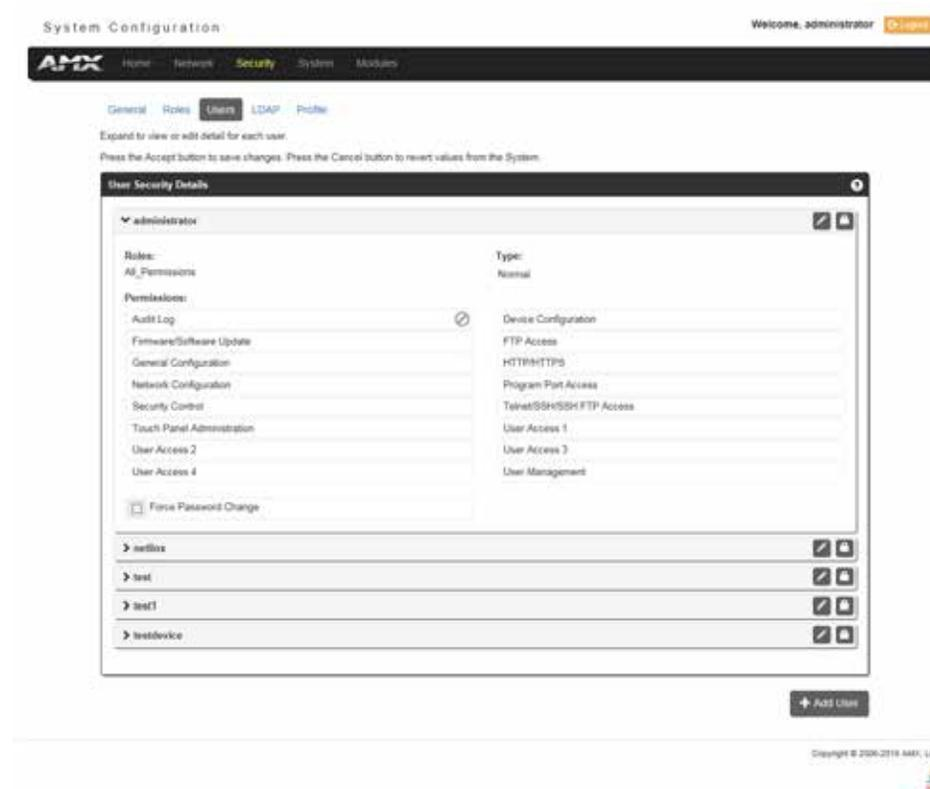

FIG. 78 Security - Users page
Select the **Users** option on the Security Page to access the **User Security Details** page (FIG. 78). The options on this page allow authorized users to add/delete/lock User accounts and configure User's access rights. Locking a user account disables the account without deleting it.
2. Click the **Add User** button (see FIG. 78) to access the **Add New User** page (FIG. 79).
2. Click the **Lock** button (see FIG. 78) for any user listed on the *User Security Details* page to lock and disable the user. Click the Lock button again to unlock and enable the user.
The LDAP page provides configuration and tests connection to a remote directory service via LDAPv3. The master supports the option of an insecure or secure connection. The secure option is supported via “LDAPS”, or LDAP over SSL/TLS on port 636. Select the **LDAP** option on the Security Page to access the **LDAP Settings** page (FIG. 78). The options on this page allow authorized users to enable and modify LDAP security settings.